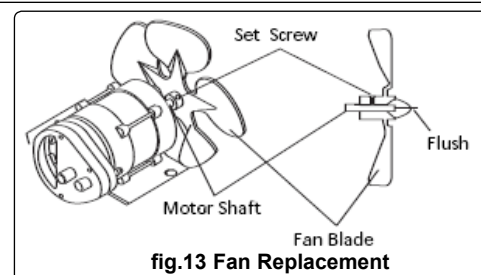

fig.13 Fan Replacement
- 6.8 Fan.** Fan blades (fig.13) should be cleaned at least once per heating season (depending on environment). Remove the outer case and clean the fan blades with a damp cloth. Dry fan thoroughly using compressed air.